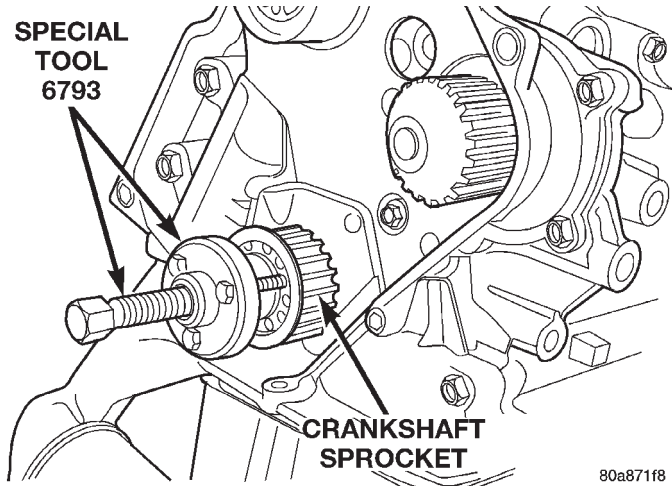

Fig. 65 Crankshaft Sprocket—Removal
(2) Remove outer timing belt cover and timing belt. Refer to Timing Belt System outlined in this section.
(3) Remove crankshaft sprocket using Special Tool 6793 and insert C-4685-C2 (Fig. 65).